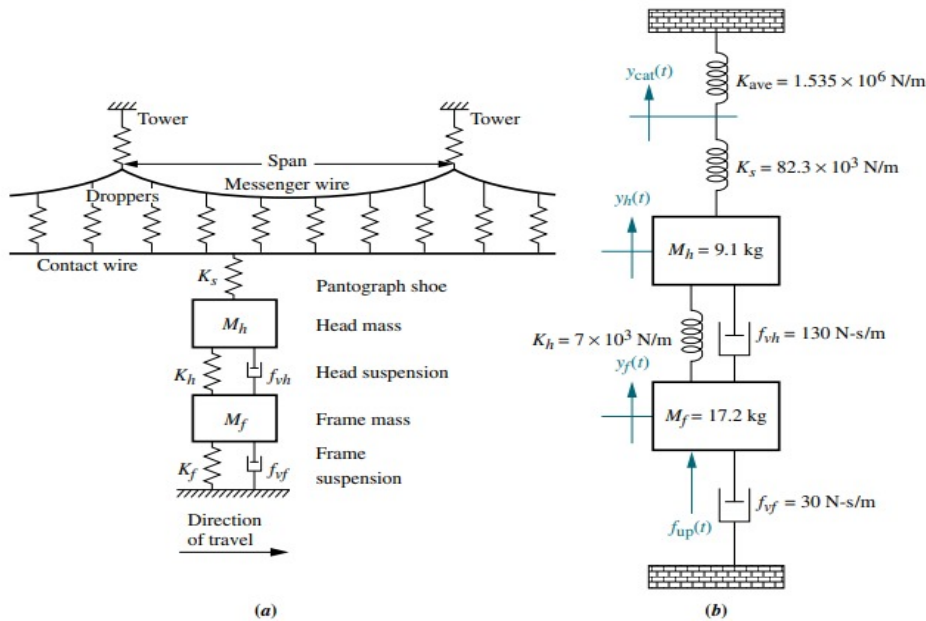

Figure 2: Pantograph-Catenary Model
3. A translational mechanical system model for a high-speed rail pantograph, used to supply electricity to a train from an overhead catenary was discussed in Tutorial 2 as shown in Figure 2 below. Represent the pantograph in state space, where the output is the displacement of the top of the pantograph  $y_h(t) - y_{cat}(t)$ .